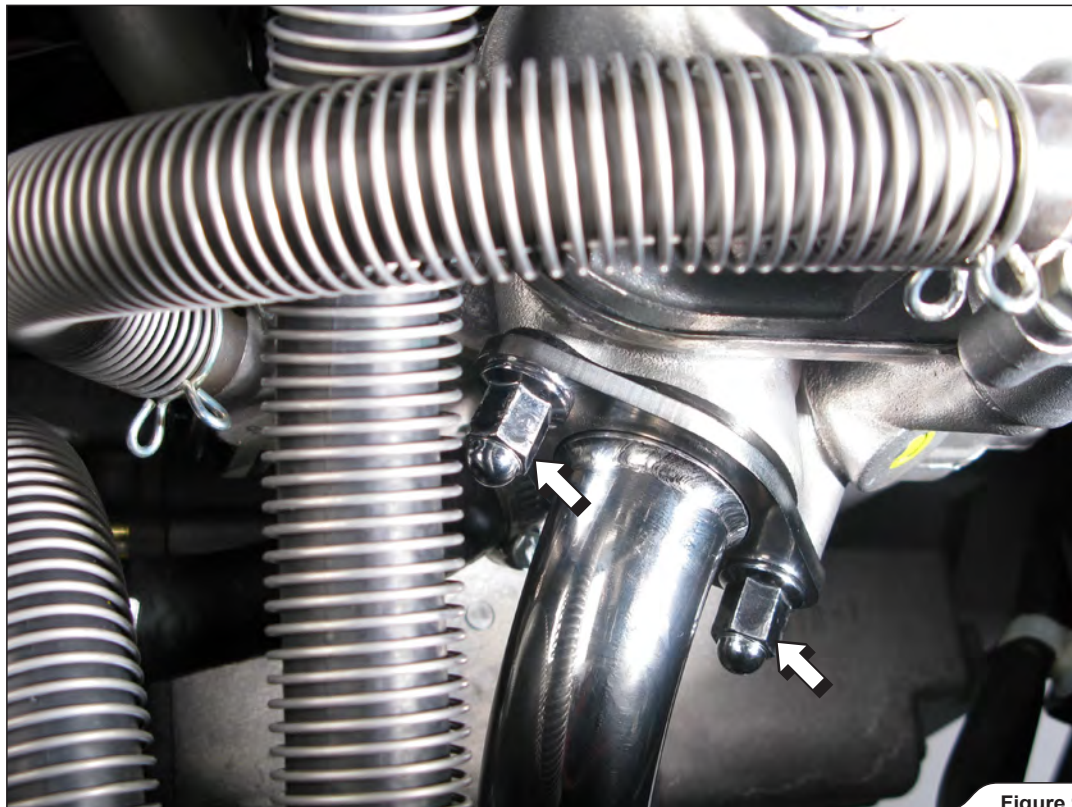

Figure 9
3. Install the Akrapovič header onto the exhaust port, using original nuts - do not fully tighten the nuts yet (Figure 9).